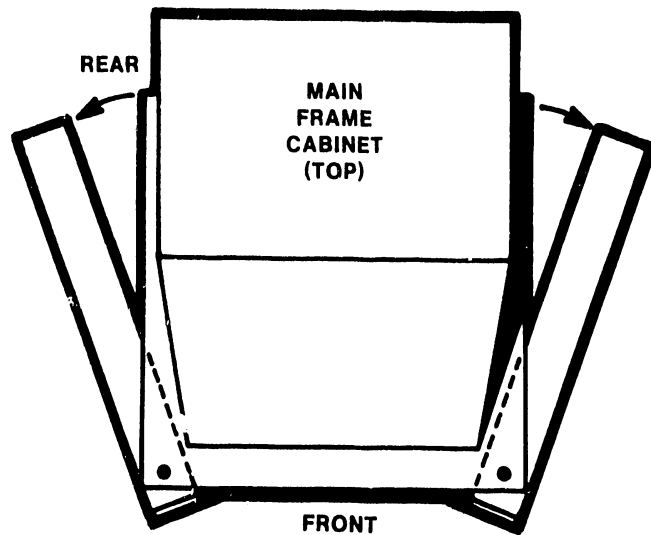

Figure 4-2. Swinging Cushion Pallet Feet
9. While firmly grasping the rear top of the cabinet, lift the cushion pallet up over the right cushion pallet foot bolt and partially swing the foot out away from the pallet. (See figure 4-2.)